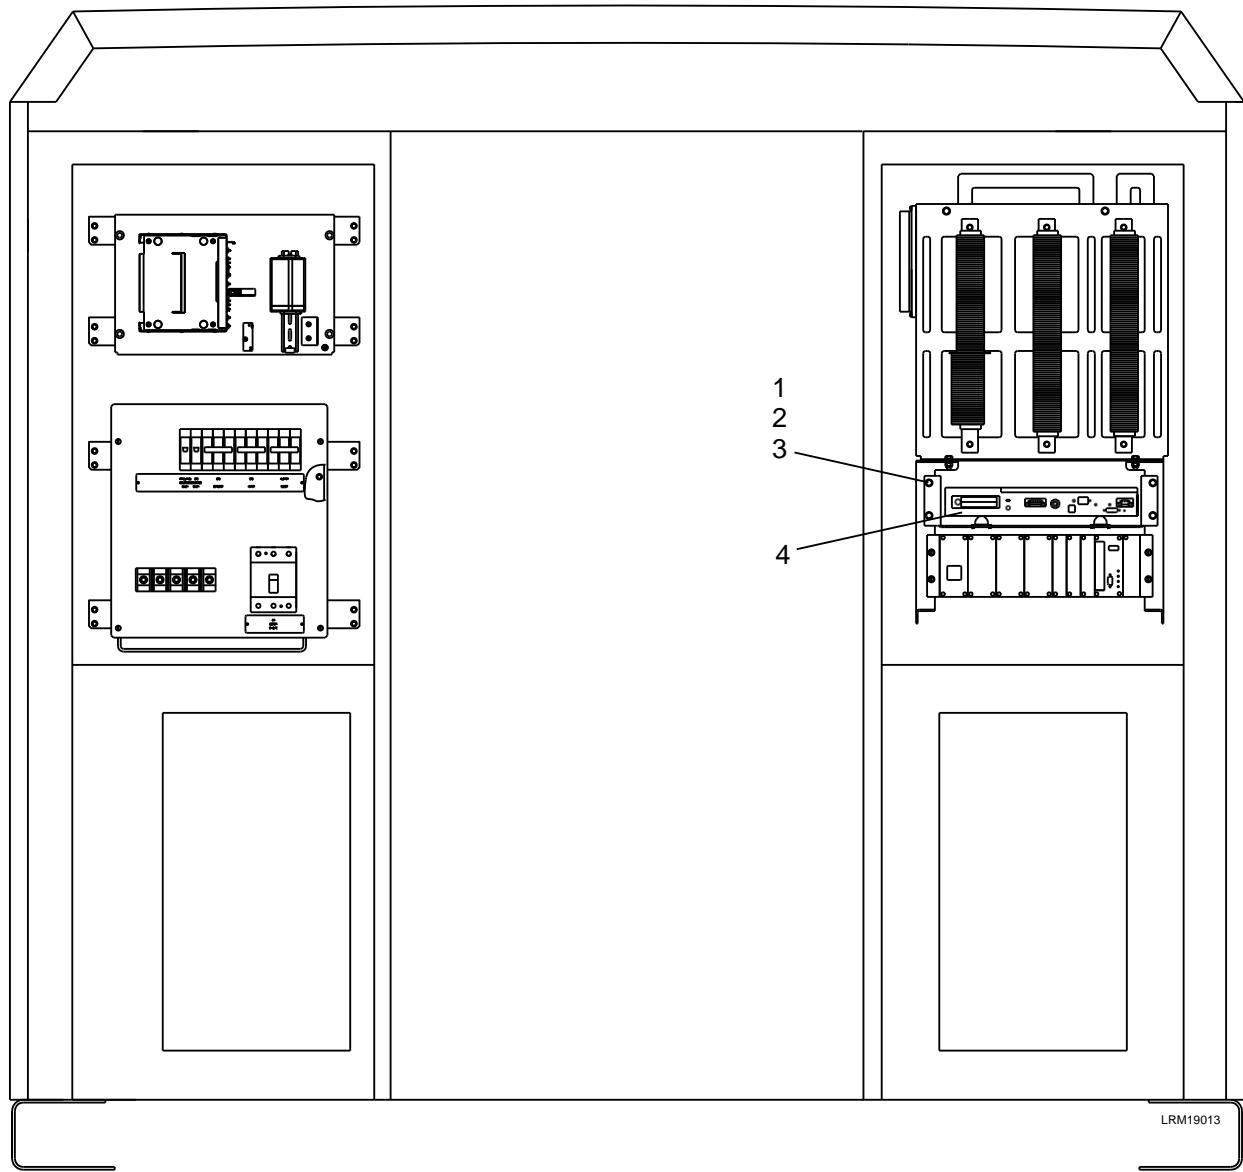

Figure 7-11: Network Video Recorder (NVR)
2. Disconnect the electrical connections from the Network Video Recorder (4). See Figure 7-11.
3. Remove the four M8 x 20 bolts (1), M8 lock washers (2) and M8 plain washers (3).
4. Remove the Network Video Recorder (4).